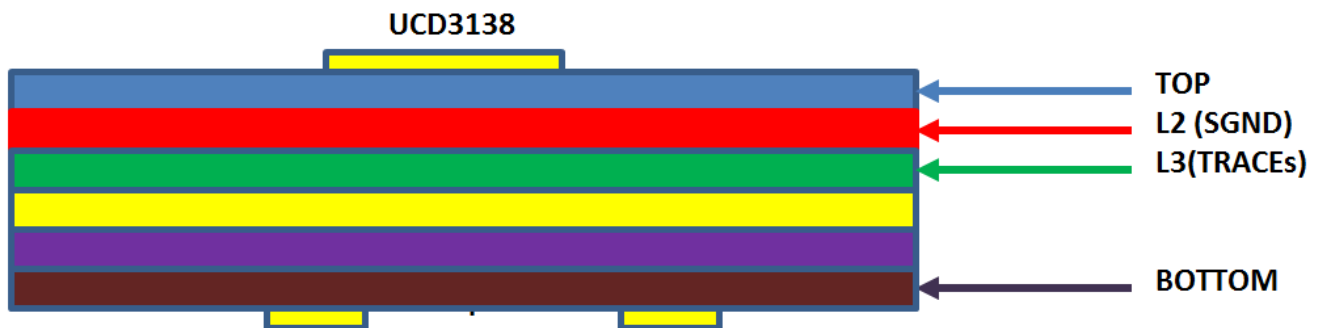

Figure 6-1. Single Ground Plane for a Power Module Design
- In a power module or a tiny PCB design, a single solid plane without the grounding separation is shown in Figure 6-1 and has a single point connection with power RTN or SGND near the connector. Ensure there is no current flow from power train into the signal ground plane.